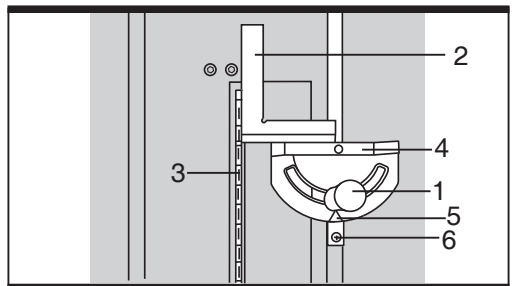

Fig 17
1) To adjust pointer 90° setting, loosen the clamp handle (1) and place a square (2) against both the saw blade (3) and mitre gauge (4). The pointer (5) should indicate 90° on the mitre gauge.
2) If the pointer does not point to 90° on the mitre gauge, tighten the clamp handle, loosen the pointer screw (6) on the bar, adjust the pointer to the 90° position and retighten the pointer screw (See fig. 17).